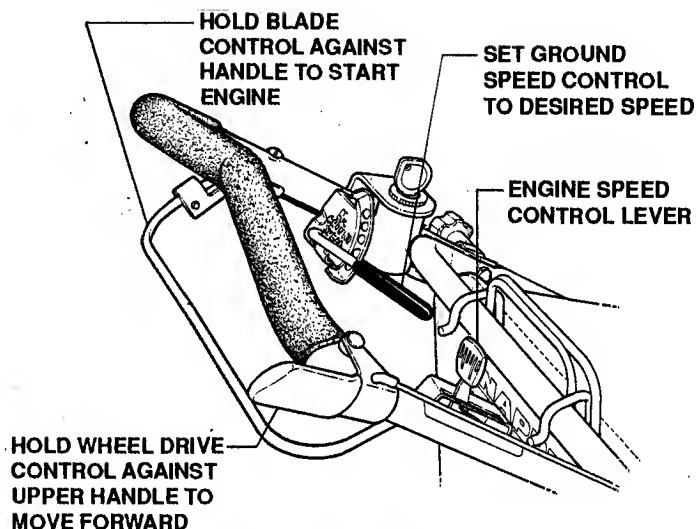

FIGURE 2.2
- 4. Turn ignition key to 'START' position and hold until engine starts, then release. See Figure 2.2.